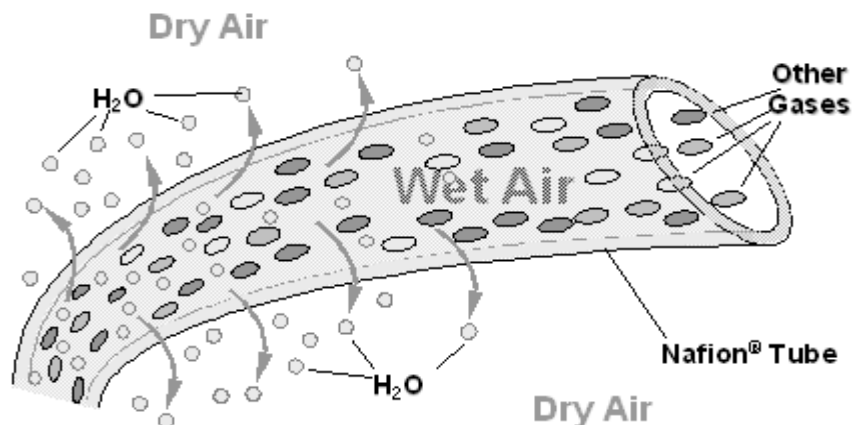

**Figure 6-8. Ozone Generator Principle**
The analyzer uses a dual-dielectric, Corona Discharge (CD) tube for creating its O3, which is capable of producing high concentrations of ozone efficiently and with low excess heat (see Figure 6-8). The primary component of the generator is a glass tube with hollow walls of which the outermost and innermost surfaces are coated with electrically conductive material.